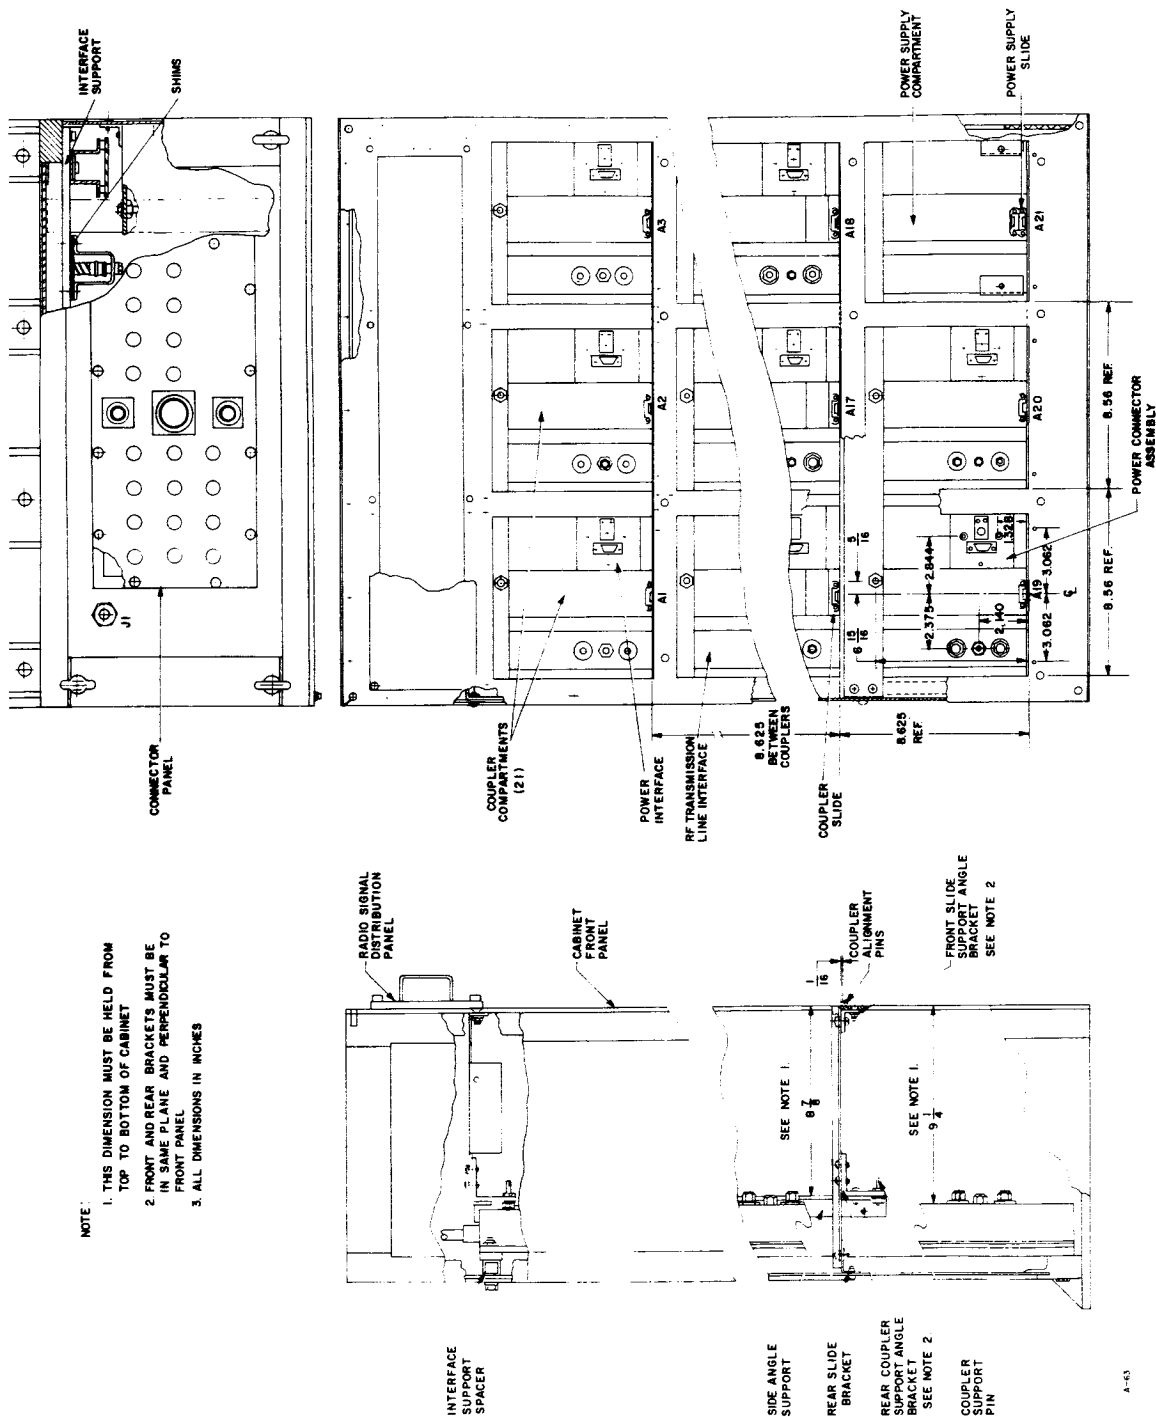

FIGURE 5-12. MECHANICAL ALIGNMENT
(1) The RF transmission line and power interface have been mounted and secured in the rear of the cabinet to allow the couplers to mount in any of the 20 coupler compartments. In most cases couplers can be interchanged from one compartment to another. Care must be exercised in doing this to be certain the rear mating parts are not damaged in case misalignment has occurred. If a coupler does not engage with normal force it usually can be inserted if the 4 Phillips screws holding the front panel to the coupler are loosened about 1 turn. This procedure will allow the panel to move slightly with respect to the coupler enclosure. Retighten the 4 screws after the coupler has been inserted into its designated compartment.
(2) The alignment of the rear interfaces in the cabinet should not be adjusted unless physical damage has occurred and couplers cannot be inserted in the compartments. If an RF transmission line or power interface is found defective and it is necessary to replace or repair it, extreme care must be exercised to assure proper alignment when it is replaced. It is suggested that this alignment be attempted only by trained mechanical technicians. Figure 5-12 shows the installation of the various supports, angle brackets and interfaces with key dimensions needed for proper assembly.
(3) No special tools are required but standard tools of the following types are needed:
b. DISASSEMBLY. -In order to remove or replace either an RF or Power interface it will necessary to remove the front panel from the cabinet and the rear coupler support angle brackets (See Figure 5-12). Note that shims are used in back of the RF interface to maintain proper front to rear dimensions, the dimensions are given on Figure 5-12. If the cabinet has been completely disassembled, follow the steps outlined in the cabinet assembly procedure. If only limited disassembly has occurred only those portions of the procedure affecting the parts to be reinstalled are necessary. If the procedure is carefully followed the correct vertical, horizontal and depth dimensions can be obtained.
(1) Assemble the five interface supports and spacers in the rear of the cabinet.
(2) Mount the RF and Power interfaces in position but do not secure the hardware mounting the RF interface. Shims behind the RF interface may be necessary to obtain the front to rear dimension. See Figure 5-12. Depth from front of cabinet (no panel) to front face of RF interface must be $9 + \frac{1}{32}$ inches ($9 \frac{1}{4} + \frac{1}{32}$ when measured to face of panel if installed.)
(3) Mount the side angle supports to the side walls of the cabinet. Ensure that the front face of the angles are parallel to (spaced equal depth from) the front of the cabinet. Depth from the front of cabinet (no panel) to front face of the side angles must be $8 \frac{5}{8} + \frac{1}{32}$ ($8 \frac{7}{8} + \frac{1}{32}$ when measured to face of panel if installed.)
(4) Assemble coupler support pins to the rear coupler support angle bracket. Tighten support pin nut only enough to hold pin in position, but do not secure it.
(5) Mount the rear coupler support angles in the cabinet to the side
Figure 5-12 gives reference dimensions for nominal locations of the preceding parts.